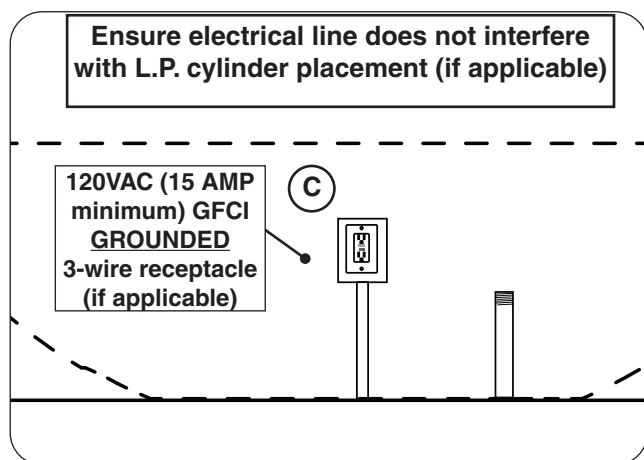

Fig. 25-2 Route electrical (if applicable)
1. Wire the receptacle into the area that the unit will rest over (see Fig 25-2, C).